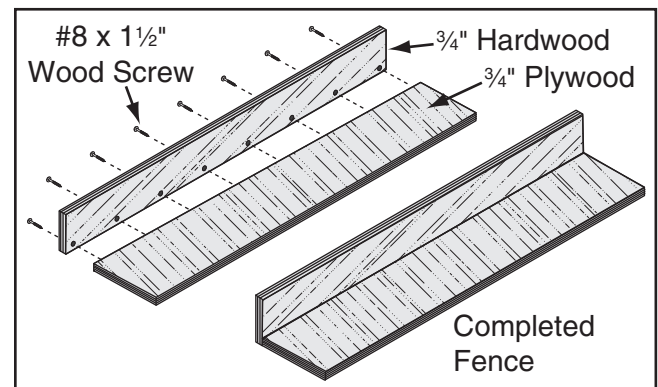

Figure 87. Location of pilot holes.
2. Pre-drill and countersink eight pilot holes $\frac{3}{8}$ " from bottom of 3" wide board, then secure boards together with eight #8 x $1\frac{1}{2}$ " wood screws, as shown in **Figure 87**.